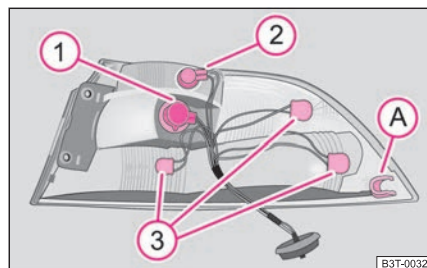

Fig. 224 Outer part of the rear light unit: Lamps
- To re-insert the rear light unit, first of all guide it with the support **(A)** ⇒ fig. 224 towards the front onto a bolt on the bodywork.
Fitting position of the bulbs in the outer rear light unit ⇒ page 250, fig. 224.